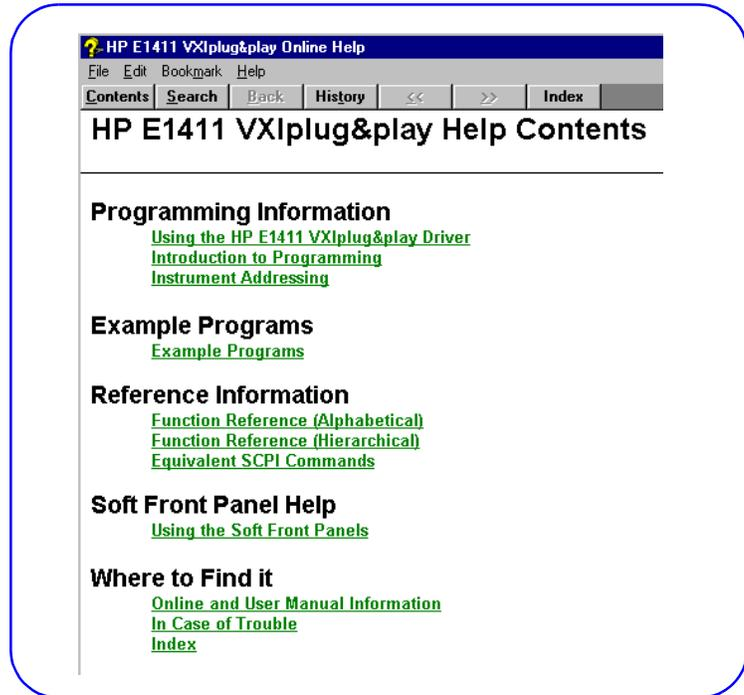

Figure 43. Typical *VXIplug&play* Help File Main Menu
- For the first VXI instrument to be programmed, open the applicable instrument *VXIplug&play* Help File (*Start/Programs/Vxipnp/instrument help icon*). Figure 43 shows a typical *VXIplug&play* Help File main menu for the HP E1411 DVM that is displayed when you click *Start/Programs/Vxipnp/HP E1411 Help (32-bit)*.